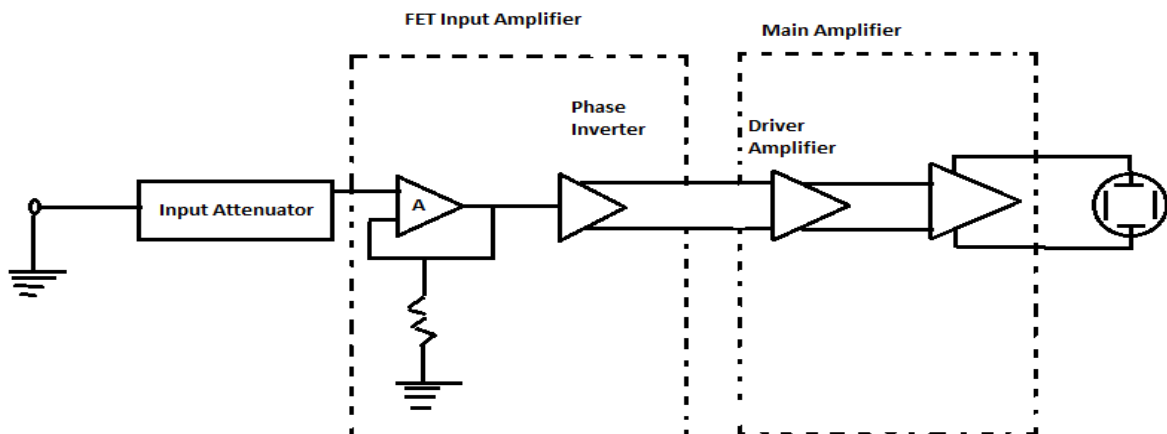

Fig.4: Vertical amplifier.
The sensitivity (gain) and frequency bandwidth (BW) response characteristics of the oscilloscope are mainly determined by the Vertical Amplifier. Since the gain bandwidth product is constant, to obtain a greater sensitivity, the bandwidth is narrowed and vice-versa. The block diagram of a vertical amplifier is shown in Fig. 4 below.